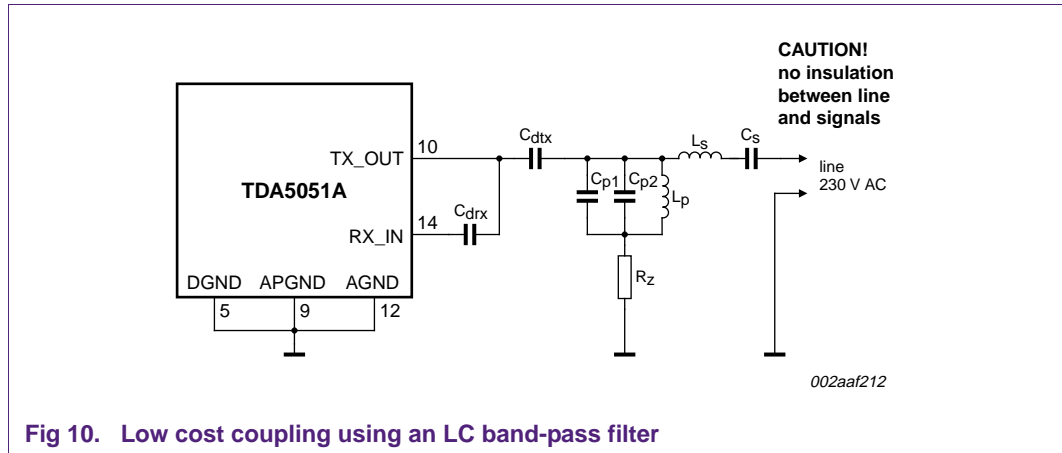

Fig 10. Low cost coupling using an LC band-pass filter
Minimum input impedance of the filter: if required, the R_z resistor (see Figure 10) can be chosen from 0 Ω to 5.6 Ω , in order to limit the minimum input impedance of the filter (EN standard is at a project stage about this point).
(1) As defined in Figure 10.